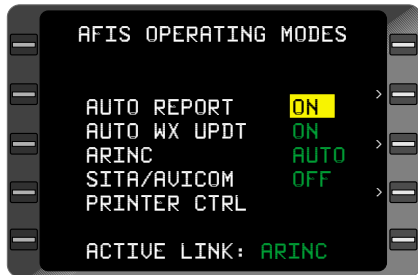

Figure 7-108
4. Line Select Key - DEPRESS to position cursor over **ON** option of **AUTO REPORT** field. (Figure 7-108)